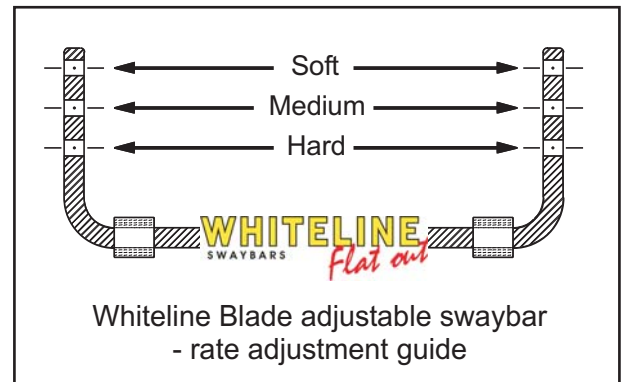

Figure 1.
9. Re-fit the swaybar to the vehicle and re-attach original end-links. For adjustable type swaybars, refer to figure 1 for swaybar adjustment guide.